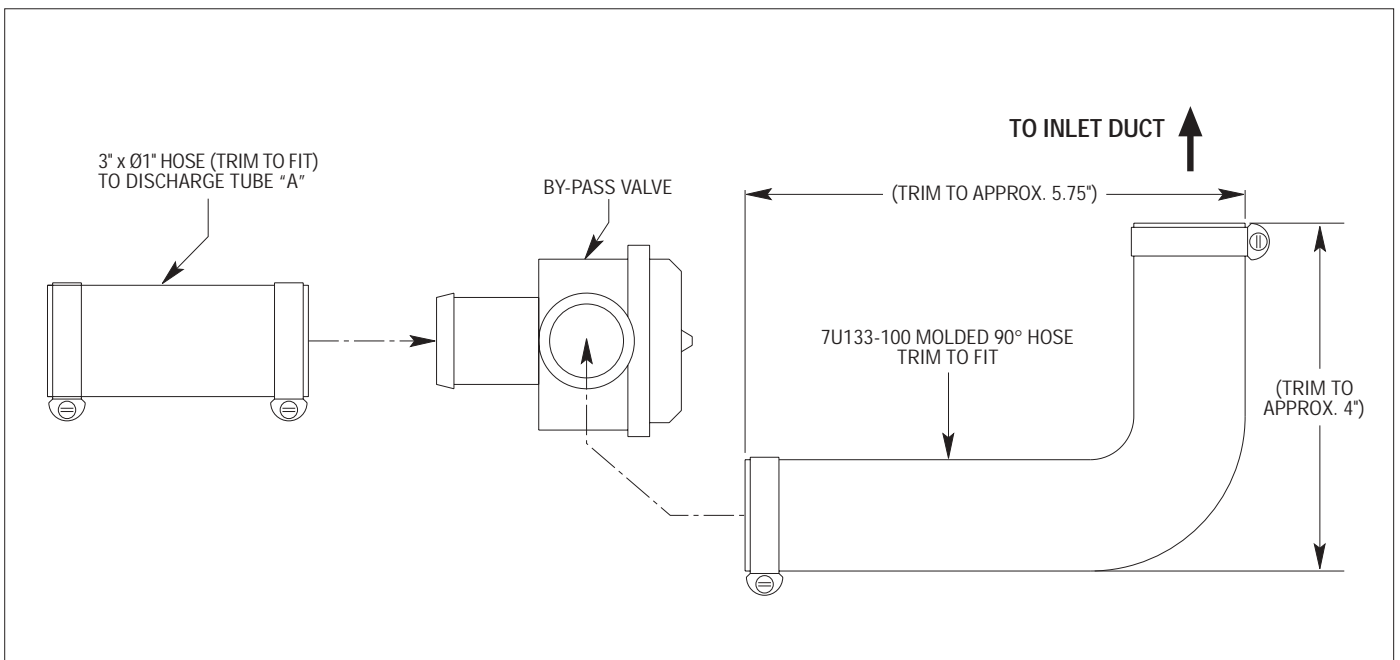

Fig. 3C-a
- c. Attach the open end of the 3" long hose to the by-pass port on tube "A" and secure using a #16 hose clamp. The open end of the 90° hose will be connected to the inlet duct in a later step. See Fig. 3C-d.)